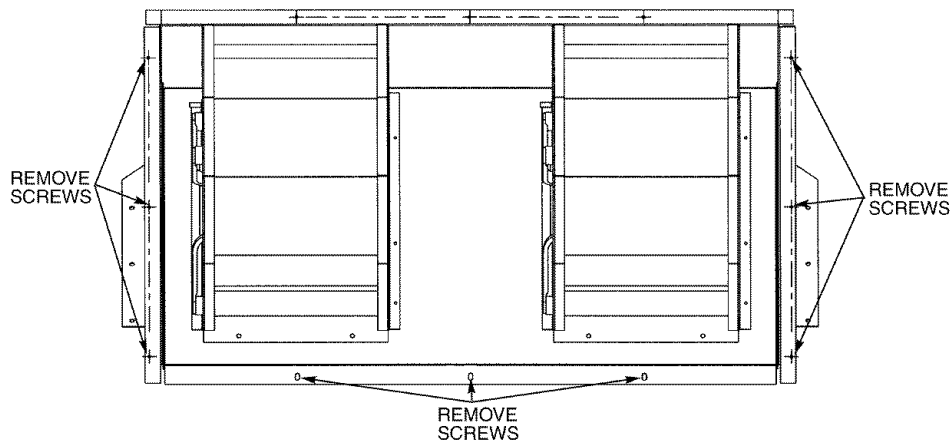

Fig. 18 — Power Exhaust or Barometric Relief Damper Mounting Details
1. Remove 9 screws holding each damper assembly in place. See Fig. 18. Each damper assembly is secured with 3 screws on each side and 3 screws along the bottom. Save screws.